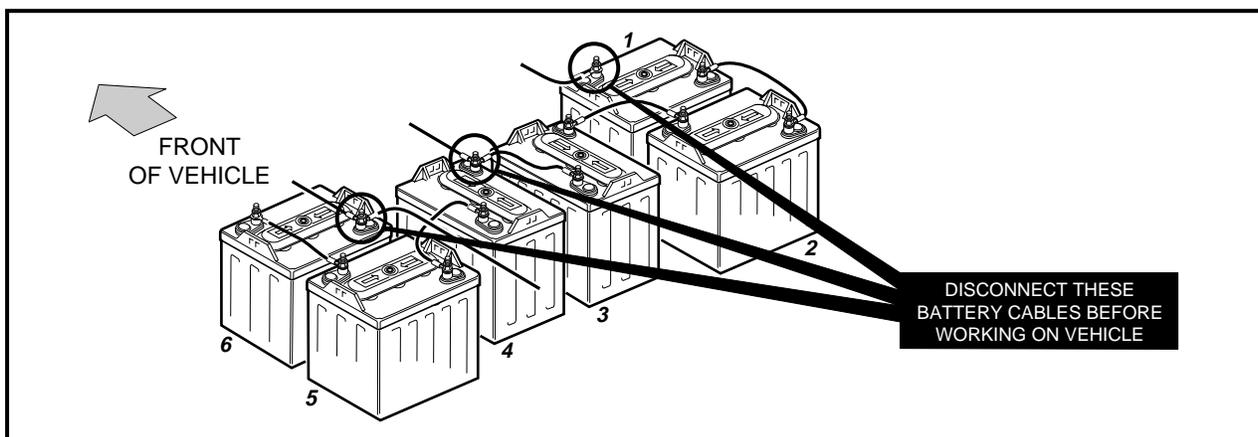
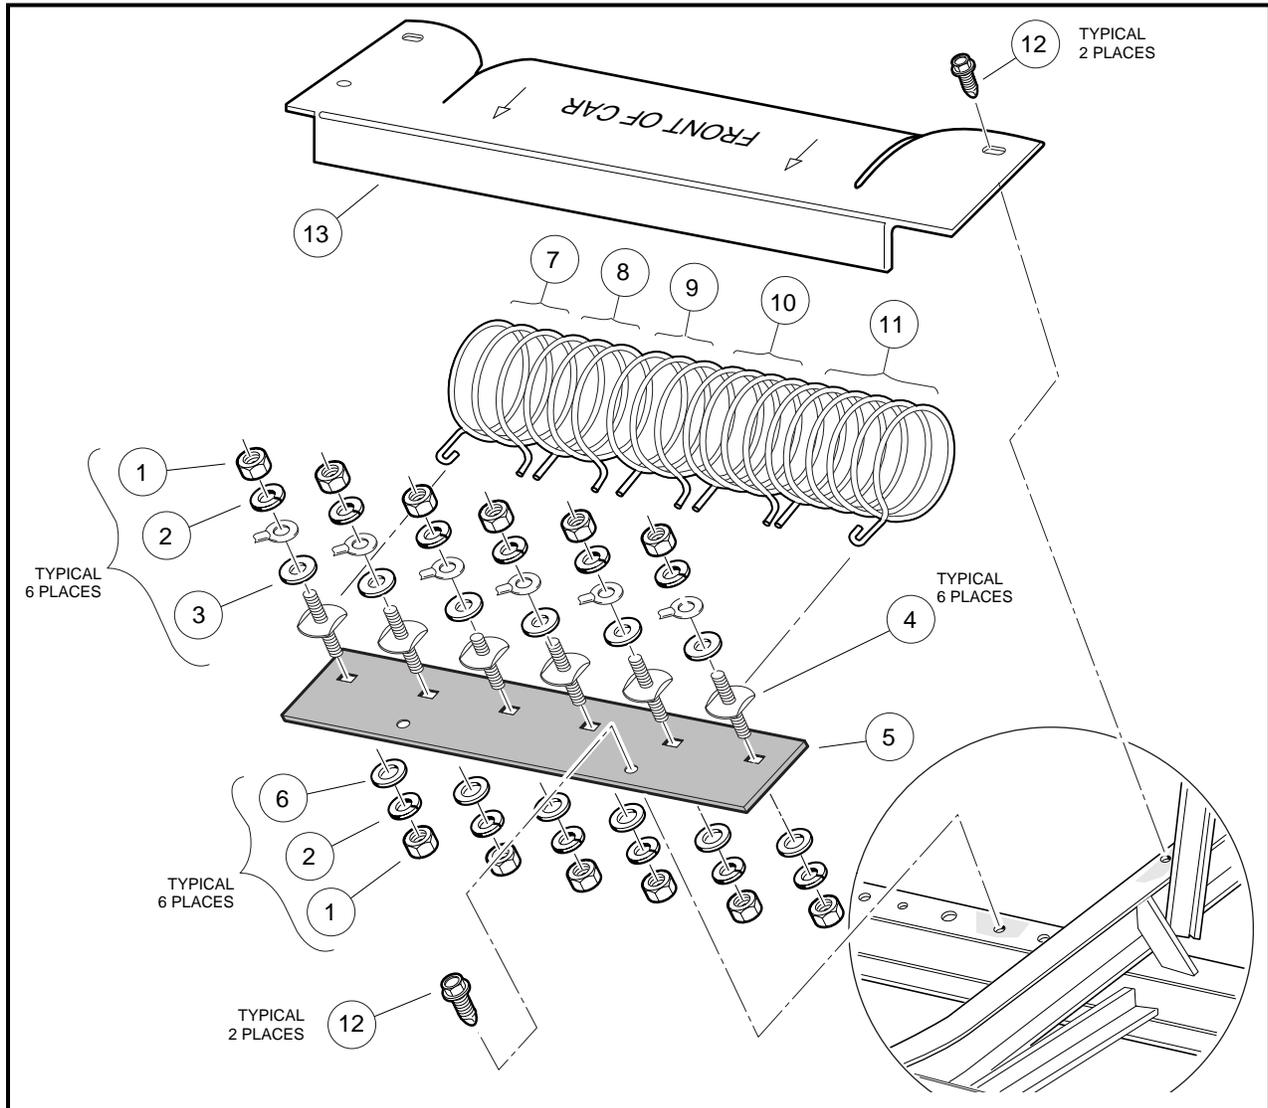

Figure 12-1 V-Glide Battery Configuration
Figure 12-6 Mounting Board and Resistors
- TO AVOID UNINTENTIONALLY STARTING THE VEHICLE, DISCONNECT BATTERIES, NEGATIVE CABLE FIRST, AS SHOWN IN **FIGURE 12-1, PAGE 12-1** WHEN PERFORMING TESTS THAT DO NOT REQUIRE THE ELECTRICAL SYSTEM TO BE ENERGIZED.
1. Disconnect the batteries, negative cable first (**Figure 12-1, Page 12-1**).
1. Disconnect battery cables, negative cable first. Remove No. 5 and No. 6 batteries from vehicle (**Figure 12-1, Page 12-1**).
5. Install the No. 5 and No. 6 batteries and connect battery cables, positive cable first. Tighten terminal hardware to 110 in.lb (12.4 N-m) (**Figure 12-1, Page 12-1**).
1. Disconnect the batteries, negative cable first, (**Figure 12-1, Page 12-1**) and remove the center dash. See **Remove Center Dash, Page 12-2**.
The solenoid is mounted in front of the No. 3 and No. 4 batteries (**Figure 12-1, Page 12-1**). It has two sets of terminal posts. The two large terminal posts are power contact terminals and the two small posts are activating coil terminals.
1. Disconnect battery cables, negative cable first (**Figure 12-1, Page 12-1**). Disconnect wires from solenoid.
1. Disconnect battery cables, negative cable first (**Figure 12-1, Page 12-1**). Loosen (do not remove) the nuts (1) that secure the resistors (R1 - R5) to the mounting board and then slide the resistors out from under the washers (3) (**Figure 12-6, Page 12-7**).
1. Position resistor ends under washers (3) and tighten nuts to 95 in.lb (11 N-m) (**Figure 12-6, Page 12-7**). Reconnect battery cables, positive cable first. Tighten terminal hardware to 110 in.lb (12.4 N-m). See following **CAUTION** and **NOTE**.
- MAKE SURE THE RESISTOR COILS ARE INSTALLED IN THE PROPER ORDER (**FIGURE 12-6, PAGE 12-7**). RESISTOR 1 HAS THE SMALLEST DIAMETER WIRE AND THE GREATEST NUMBER OF COILS. RESISTOR 5 HAS THE LARGEST DIAMETER WIRE AND THE SMALLEST NUMBER OF COILS.